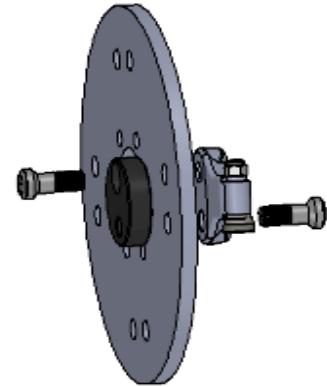

Figure 1.1
6. With the pocket on the right side of the wheel, slide the bolts of the **LoPro™** straight pocket through the empty hole in the wheel and thread it into the adjacent **LoPro™** block's threaded holes. For now, firm up the bolts until this set is seated. (Figure 1.1)